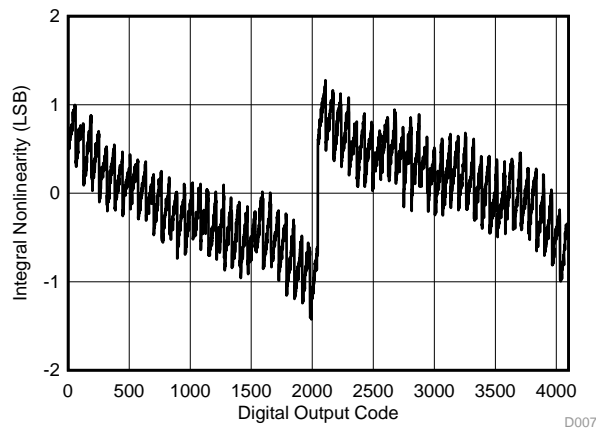

Figure 5-6. SoC ADC, Integral Nonlinearity vs Digital Output Code
(4) For a typical example, see Figure 5-6.